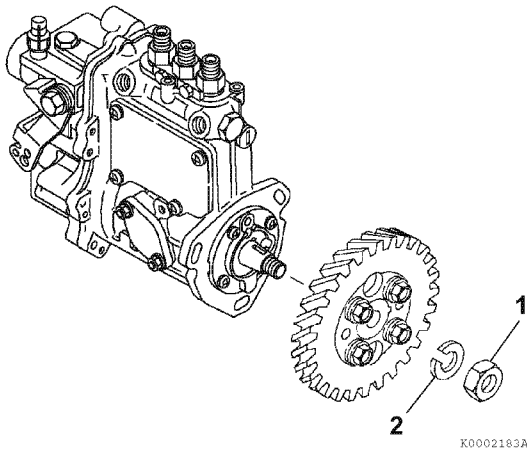

Figure 7-21
18. Once the fuel injection pump drive gear and hub assembly have “popped” loose from the tapered fuel injection pump drive shaft, carefully remove the drive gear nut (1, **Figure 7-21**) and lock washer (2, **Figure 7-21**).